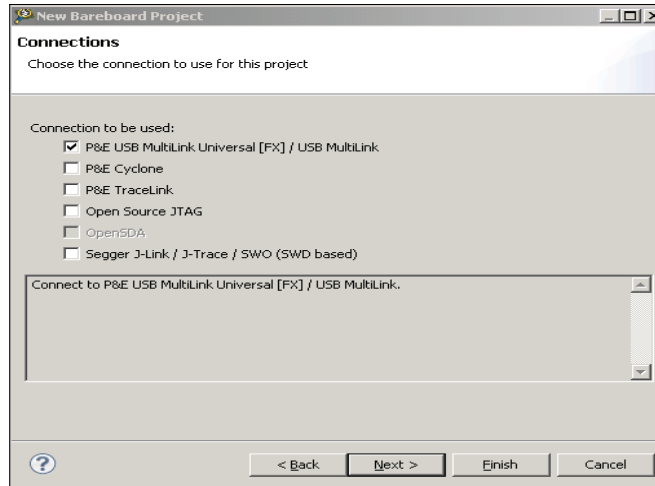

Figure 13. Choose the Connections
- Choose the connections to be used (see Figure 13).